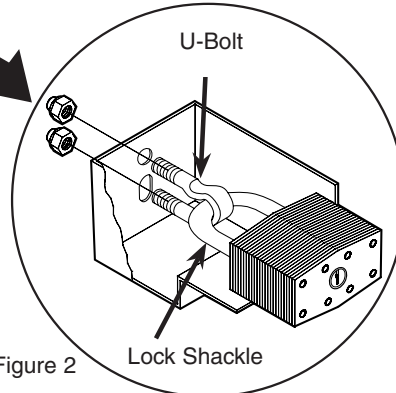

Figure 2
3. Guide the U-bolt through the two holes in the back of the lock housing (figure 2).